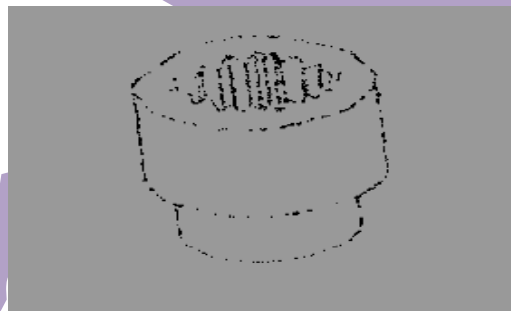

FIGURE 6
- 5.5 FIGURE 6, DIAGRAM SHEET 3 (attached) shows various tools used in the workshop.